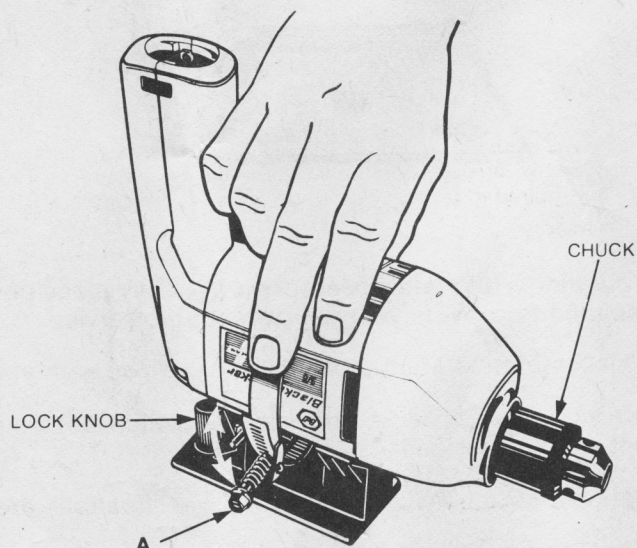

FIGURE 3
- (e) Place your drill in the drill holder so that it is horizontal and the drill chuck is facing opposite end to the lock knob. Fig. 3.